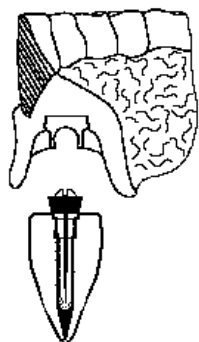

Fig.5 Cap Incorporation
**Caution!!** Again, do not remove the colored rubber band around the base of the overdenture attachment until *after* the attachment cap is incorporated into the denture. If you do, the acrylic could lock into the undercut of the ball and prevent removal of the denture from the mouth. The rubber band prevents this from occurring (Fig. 5).